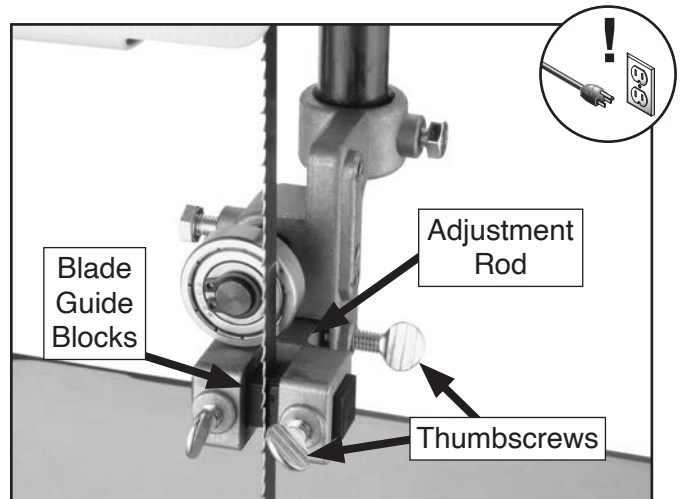

Figure 37. Blade guide controls.
3. Familiarize yourself with the blade guide controls shown in **Figure 37**.